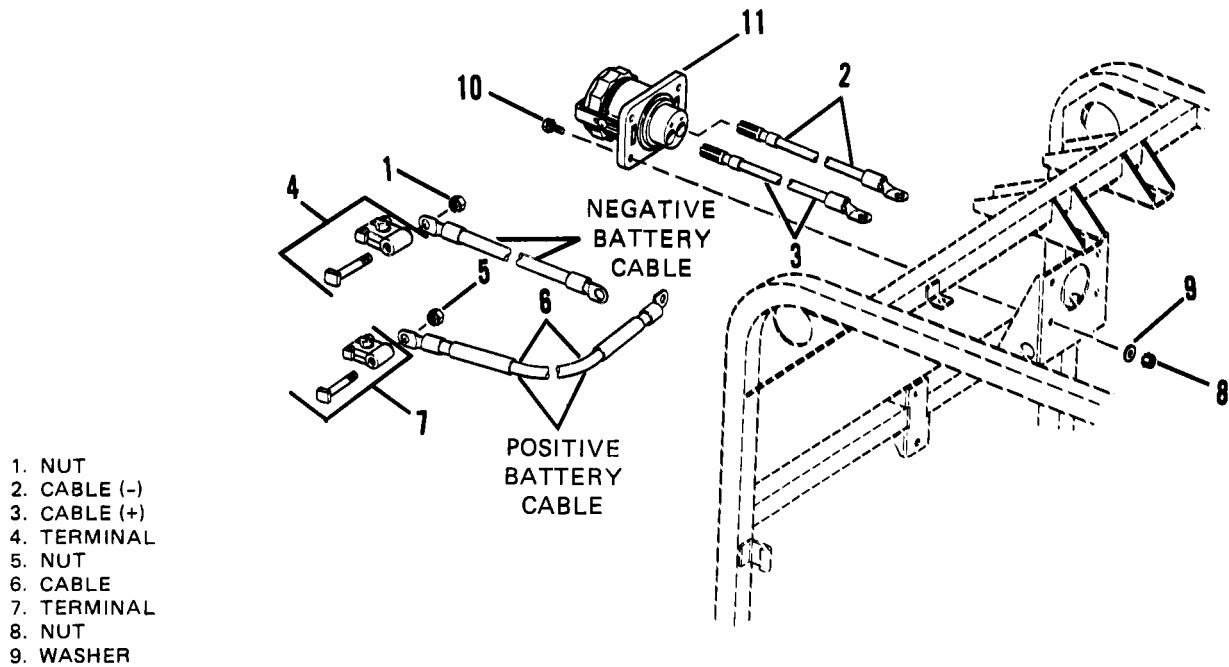

Figure 4-10. Slave Receptacle.
4-24. SLAVE RECEPTACLE. (See Figure 4-10)
- (1) Put slave receptacle (11, Figure 4-10) in position on the frame and install screws (10), washers (9) and nuts (8).
- (2) put slave receptacle cable (3) in position on positive terminal (7) and install nut (5). Put slave receptacle cable (3) in position on negative terminal (4) and install nut (1).